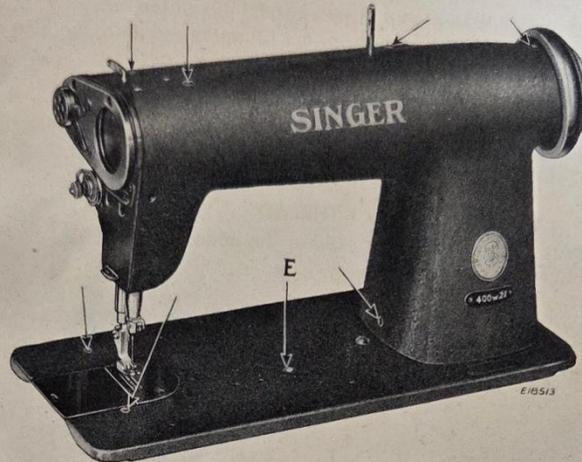

Fig. 3. Showing the Eight Oiling Points on the Machine
**BEFORE STARTING THE MACHINE,** fill the oil reservoir (through the oil gauge hole) to the top mark on the oil gauge **E**, Fig. 3.
**AT THE BEGINNING OF EACH WORKING DAY,** turn the balance wheel until the needle is **ALL THE WAY UP**, and place **A FEW DROPS** of oil in each of the seven oil holes indicated by the arrows in Fig. 3.